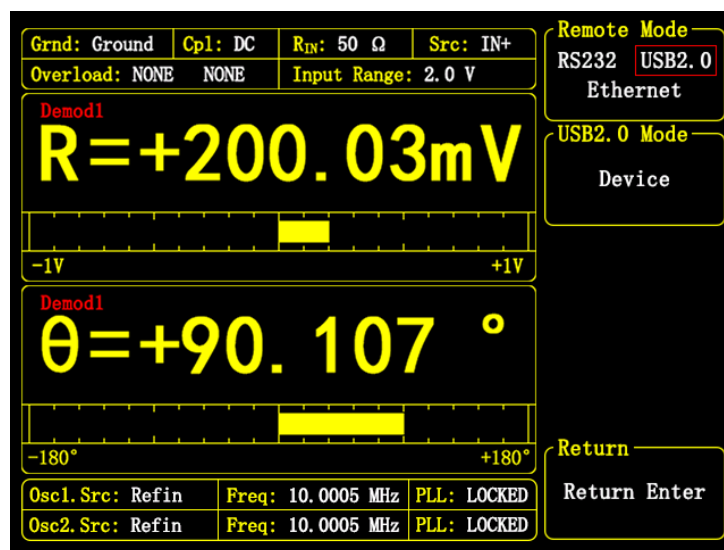

Figure 70. <Remote> submenu—<USB2.0> option
- <USB2.0> : USB2.0 high-speed communication interface. The configuration interface is shown in Figure 70.